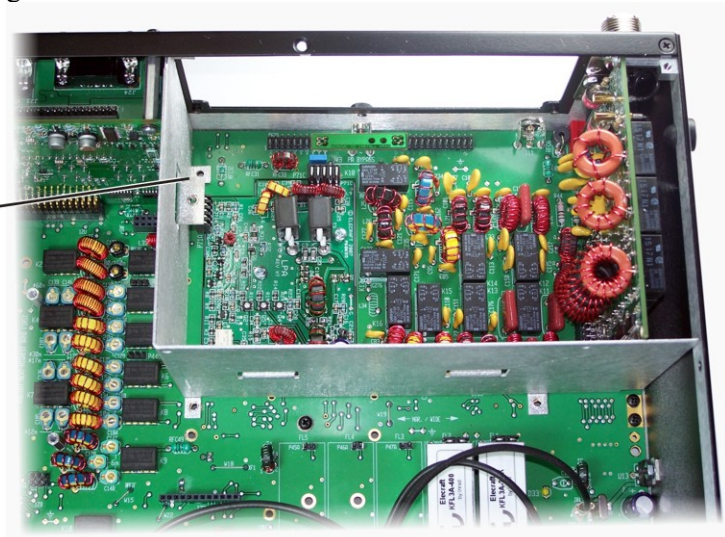

Figure 7. Positioning the Rear Shield.
- Set the rear shield in place as shown in Figure 7.